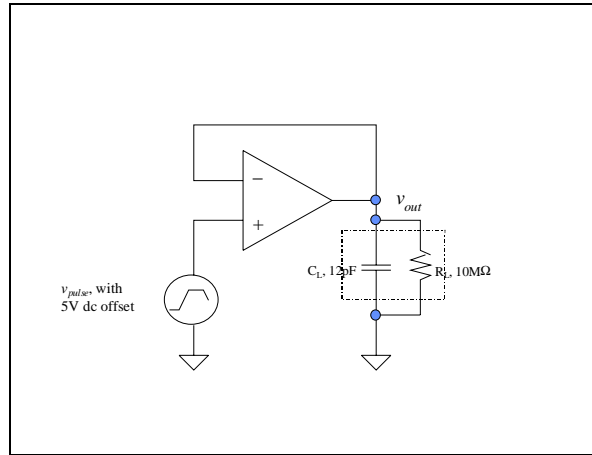

Figure 4.1a: Measurement Circuit for Transient Response
1. Use the same circuit setup as in Figure 4.1a.